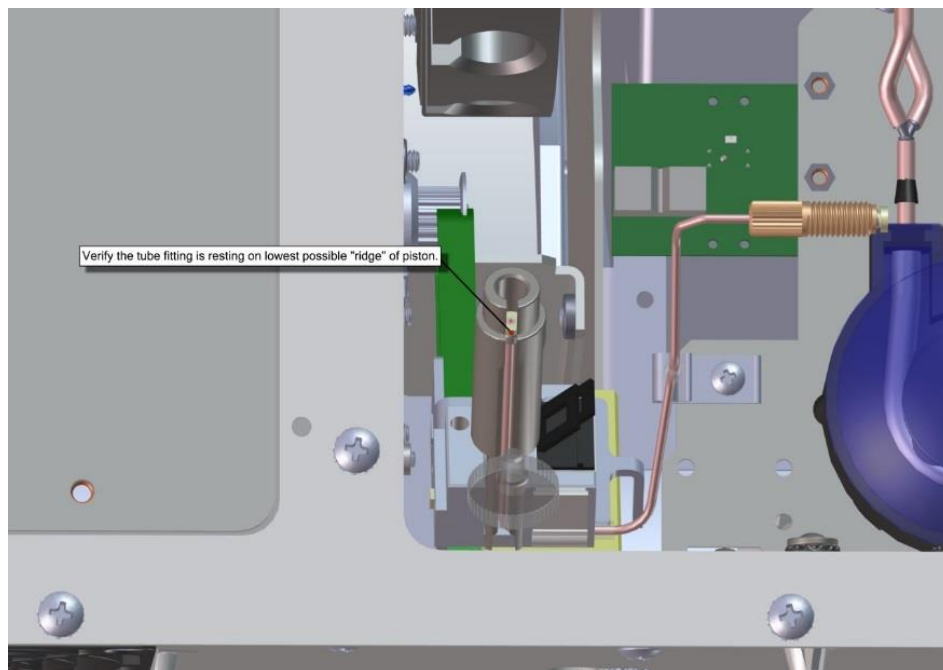

Figure 11
- Verify the Needle Tubing is resting on the lowest possible "ledge" of the interior of the Needle Piston shown in Figure 11.